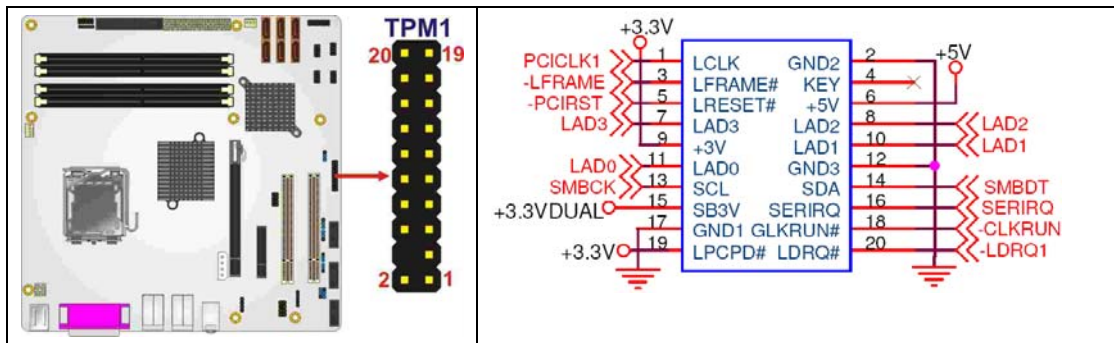

Figure 4-16: TPM Connector Location
- CN Location:** See **Figure 4-16**